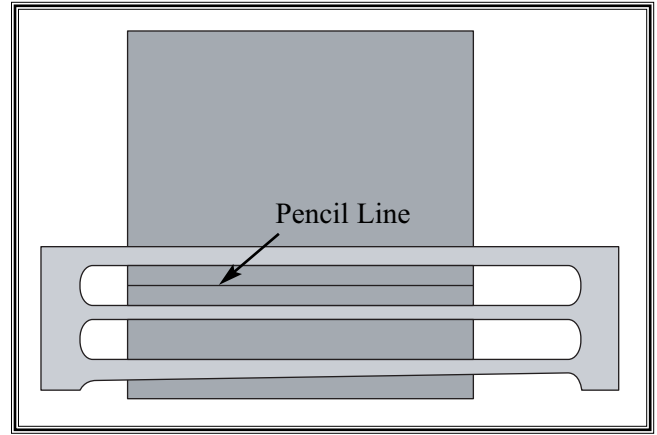

**Figure 4.** Flipping the workpiece (side view).
10. Unclamp and flip the workpiece (**Figure 4**).